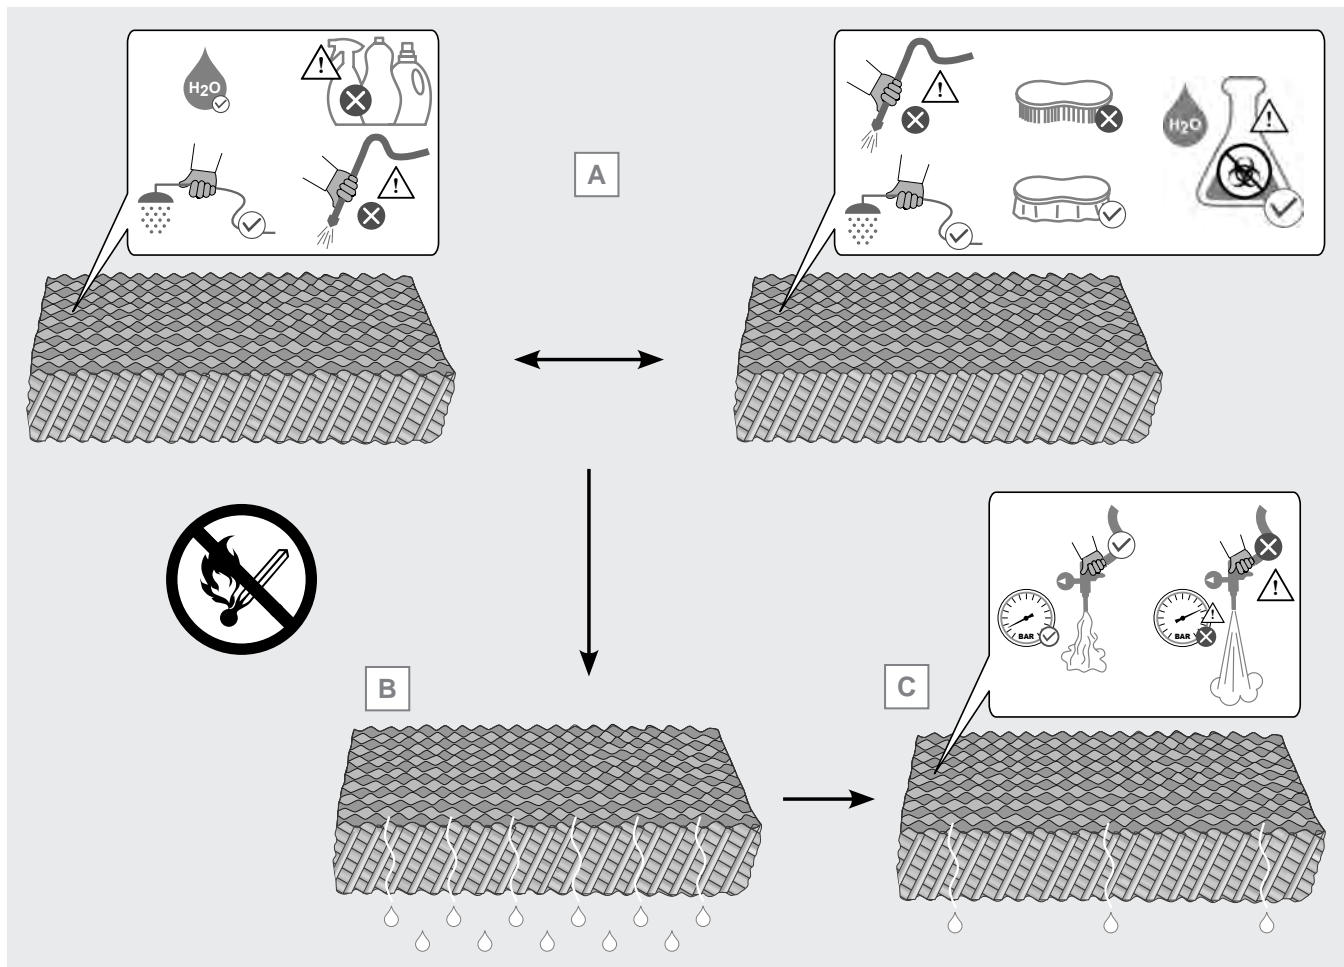

Figure 23
- 12.11.15 Use only water for routine cleaning. See point 6.21 for water characteristics. Do not use detergents, anti-scale products, foaming, acidic or alkaline substances. The use of detergents or other non-specific substances to clean the panels can lead to deterioration of the board, algae proliferation, and bacterial growth. Algae, bacteria and microorganisms in general can permanently compromise the structure of the panel and thus its performance. See Figure 23 A.
- 12.11.18 After cleaning, allow the water to drain from the panel for a few minutes, see Figure 23 B. If necessary, remove the excess water with a low-pressure compressed air jet. Take care not to damage the panels with excessive pressure, see Figure 23 C.